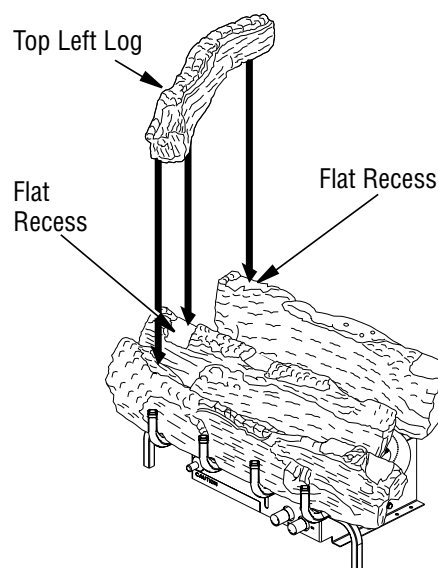

Figure 23 - Installing Top Left, Log
4. Place left top log as shown in **Figure 23**. This log will fit on the matching flat recess on the middle and rear logs.